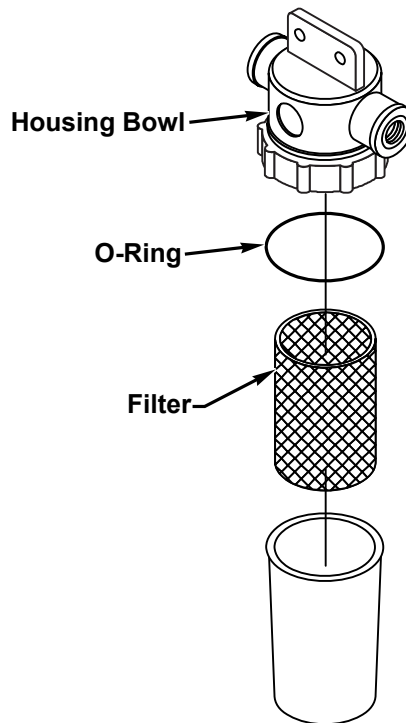

Figure 10- Insecticide Filter
- Clean the insecticide filter. If this filter becomes stopped up, the insecticide flow will be restricted or stopped. There is a fine mesh screen located in the cylindrical housing. This screen can be removed for inspection and/or cleaned by manually unscrewing the housing bowl. Reference Figure 10